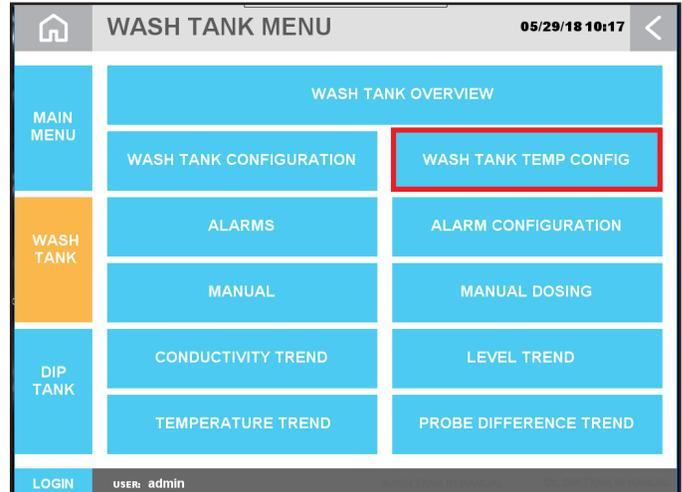

Figure 5.1: Wash Tank Menu
2. Click the Home icon and navigate to **WASH TANK > WASH TANK TEMP CONFIG** [Figure 5.1].